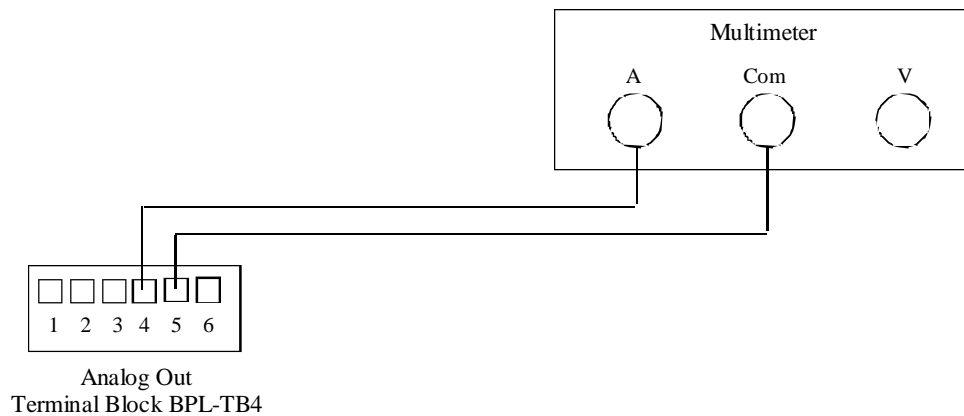

Figure 5-5: Analog Input/Output Connections
- Step 1: Connect the RTD calibrator as shown in Figure 5-5. Using LEFM Link, scale the analog inputs according to the specific RTD used. Using the RTD Calibrator, input five temperatures (equally separated and covering the range of the module).
- Step 2: Verify that the converted value (“Temperature” on LEFM Link) agrees with the input temperature (RTD Calibrator) within ± 0.5 degrees (F).
- Step 1: Connect the test equipment as shown in Figure 5-5.